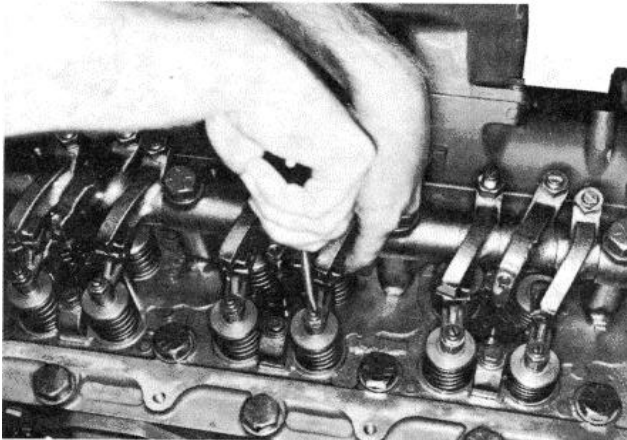

Fig. 2-40, (V51490). Adjusting crossheads - V-903
2. Use light finger pressure at the rocker lever contact surface to hold the crosshead in contact with the valve stem (without adjusting screw). Fig. 2-40.